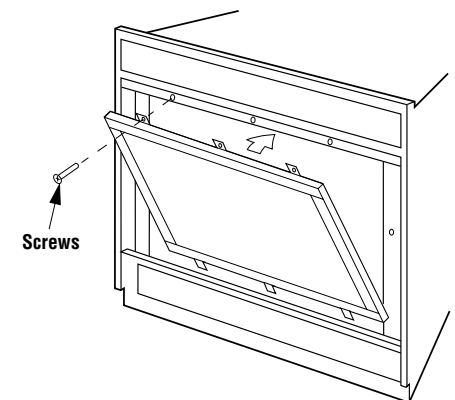

Figure 18
Step 14. Installing the Hood Assembly – Attach the hood assembly over the firebox opening with three (3) screws.
Step 15. Installing the Screen Assembly – Position the screen assembly in front of the firebox opening, with the joint in the gasket down (*Figure 18*). Locate the three (3) tabs at the bottom edge of the frame into the three (3) brackets at the base of the fireplace front opening. Lean the frame back towards the fireplace. Install the three (3) 1/4"-20 x 1" Phillips pan head screws removed previously and tighten to secure.